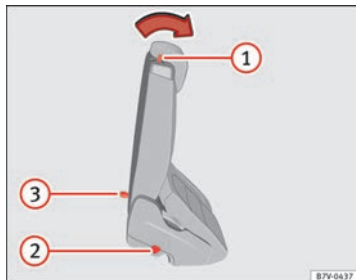

Fig. 82 Second row of seats: convenient entry function controls
- Remove any objects located in the footwell of the second row of seats, where applicable ⇒ ①.
- Push the lever ⇒ Fig. 82 ① forwards and fold the seat backrest of the rear seat. The seat can still be moved forwards when rear seat is folded completely forwards ⇒ ⚠.
- Make sure that the rear seat is securely engaged so that the seat belts can provide proper protection in the rear seats. The red mark ⇒ Fig. 82 ② should no longer be visible ⇒ ⚠ in Folding down rear seats to create load space on page 130.
If the lever ⇒ Fig. 82 ① does not work, e.g. after an accident, the seats on the second row can be folded forwards from the third row to allow vehicle occupants of the third row of seats to get out of the vehicle ⇒ ⚠.
- Pull handle ⇒ Fig. 82 ③ back and fold the seat backrest of the rear seat. The complete rear seat folds forward ⇒ ⚠.
- A red mark on the side of the seat ⇒ Fig. 82 ② indicates that the seat backrest is not engaged. The mark is no longer visible when the seat backrest is correctly engaged.